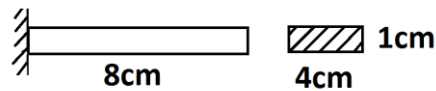

Fig.6.
35. Compute nodal temperature values for the bar shown in fig.6. thermal conductivity (k) is $3 \text{ W/cm}^\circ\text{C}$, convection coefficient (h) is $0.1 \text{ W/cm}^2\text{C}$ and surrounding temperature is 20°C . use two element idealization.